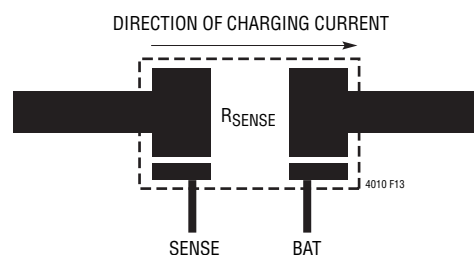

Figure 13. Kelvin Sensing of Charge Current
- For best current programming accuracy, provide a Kelvin connection from  $R_{SENSE}$  to SENSE and BAT. See Figure 13 for an example.